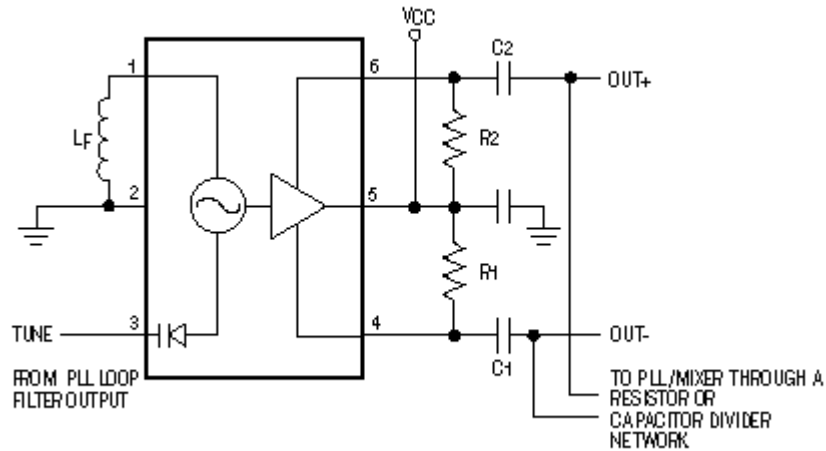

Figure 4. This simple schematic represents a typical application for the MAX2605-MAX2609 VCO IC.
2. Match the output stage resistively or reactively to the load (Figure 4).